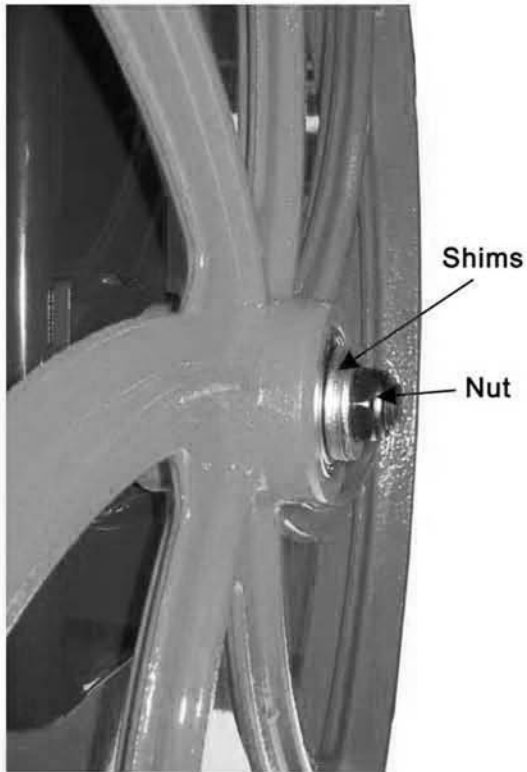

Fig. 1
In figure 1 & 2 we can see the shims for adjusting the top wheel in front and behind the cast iron wheel. To move the wheel out remove the nut and shims then remove the wheel. Now you can add shims to the back of the wheel as required. Replace the wheel and any remaining shims and the nut and tighten. To move the wheel in remove the cast iron wheel as mentioned above and remove the shims from behind the wheel, replace the wheel and shims and nut and retighten.
4. Remove the nut, washer and shims from the shaft. Now remove the wheel to reveal the shims behind the wheel. With the measurement you have at this point you will either have to add or remove the shims. Once completed replace the wheel and any shims the washer and nut and tighten. (Refer to page 10 Fig.1 & 2).